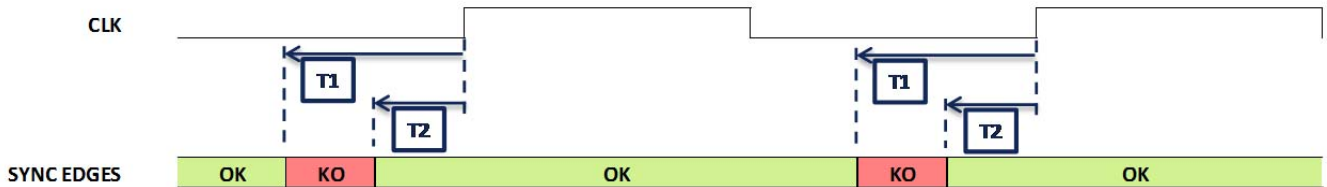

Figure 6: SYNC edges forbidden zone
5. Refer to timing diagram in Figure 6. T1 and T2 correspond to setup and hold times of the SYNCTRIG input seen at the package input.